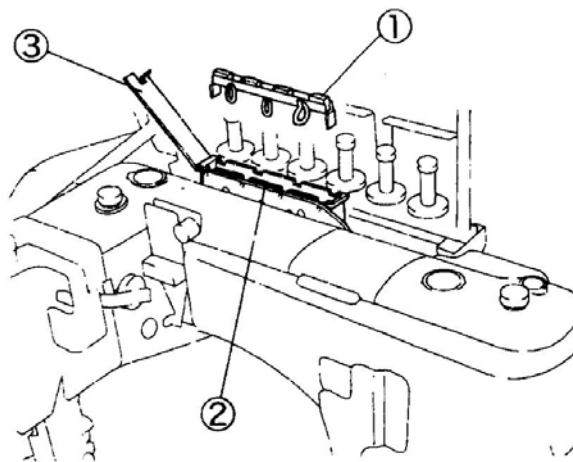

Fig.32
(Fig.32)
SP device (needle thread oiling) is equipped as standard to prevent thread breakage and skip stitch when running a machine at high speed or using synthetic thread and/or synthetic fabric. Fix the felts① included accessories into the SP tank② when using.(Fig.32)